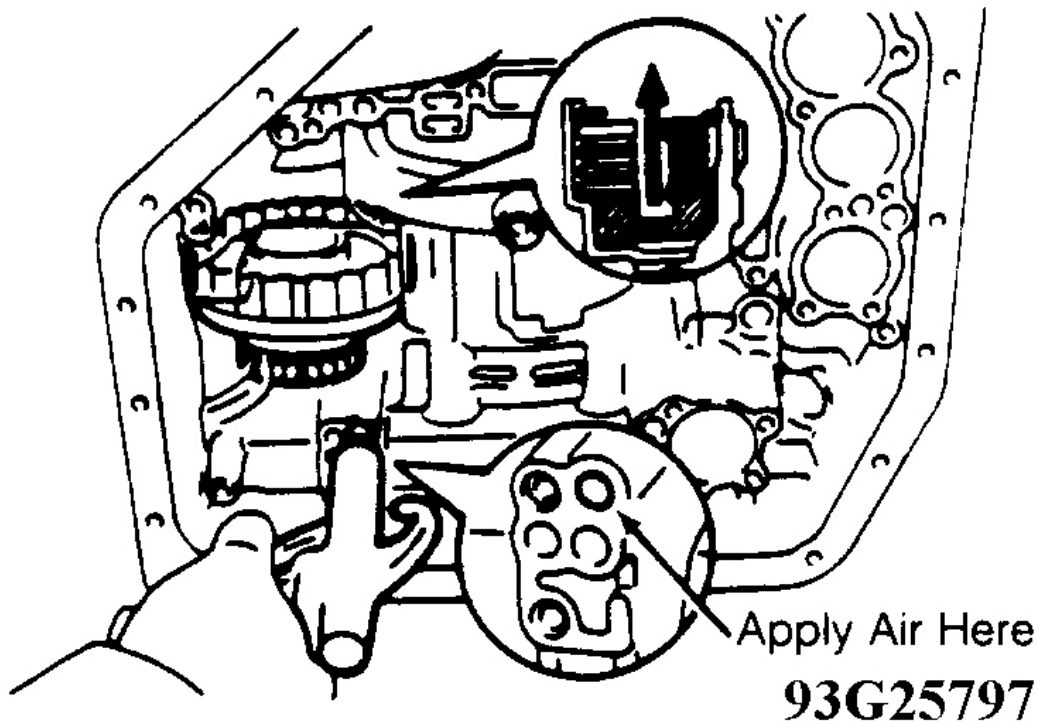

Fig. 57: Checking Underdrive Clutch Operation
7. Check clutch assembly height from sleeve to inner race. Height should be .681-.717" (17.29-18.21 mm). Using Dial Indicator (09351-32190), check piston stroke of underdrive clutch. Apply compressed air to activate clutch piston. See **Fig. 57** . Piston stroke should be .0591-.0732" (1.500-1.860 mm). If piston stroke is not within specification, ensure assembly order is correct. Flange is available in 2 thicknesses: .0803" (2.040 mm) and .0945" (2.400 mm). Replace if necessary.